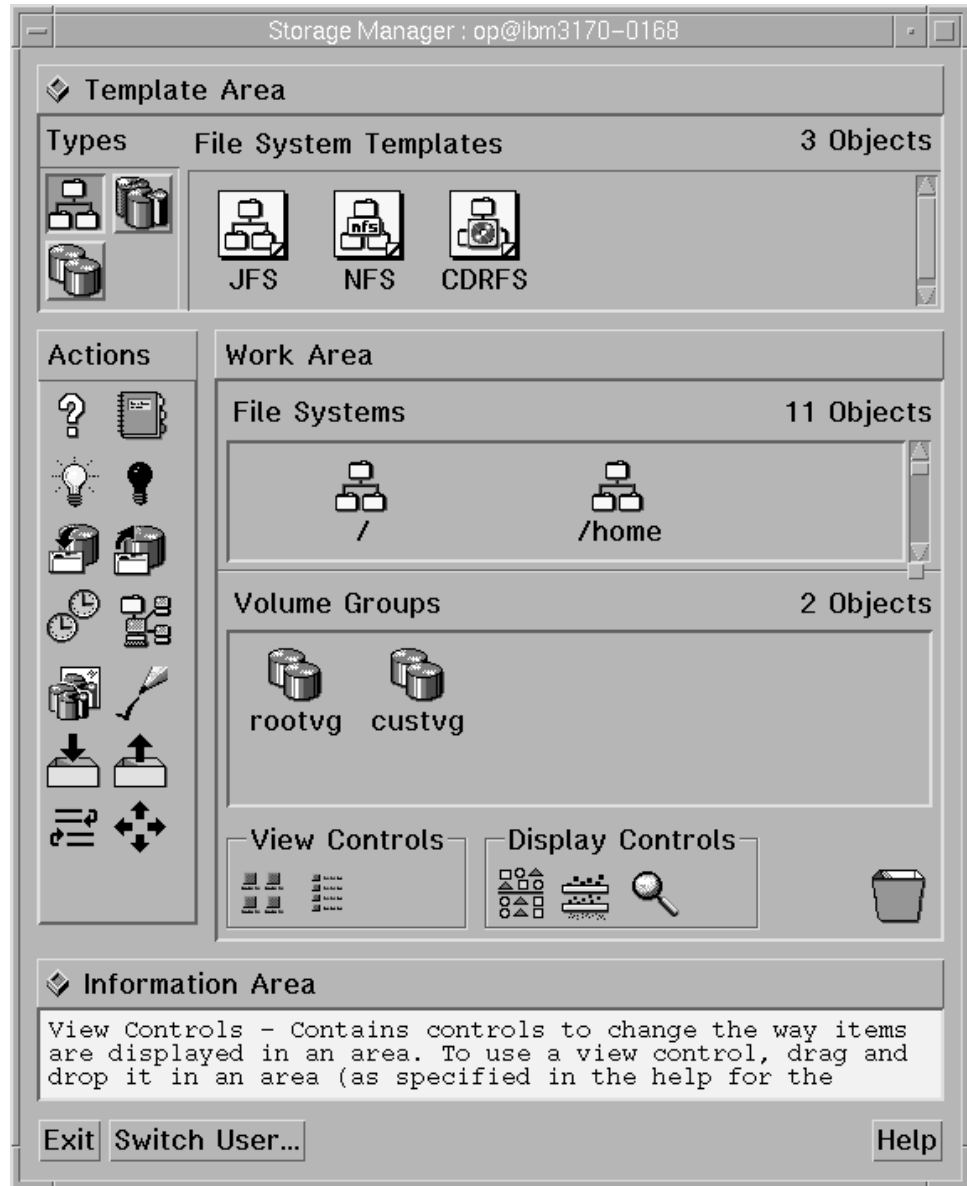

Figure 105. Storage Manager Window
- 3 Click the **Storage Manager** icon to open the **Storage Manager** window, as shown in Figure 105.